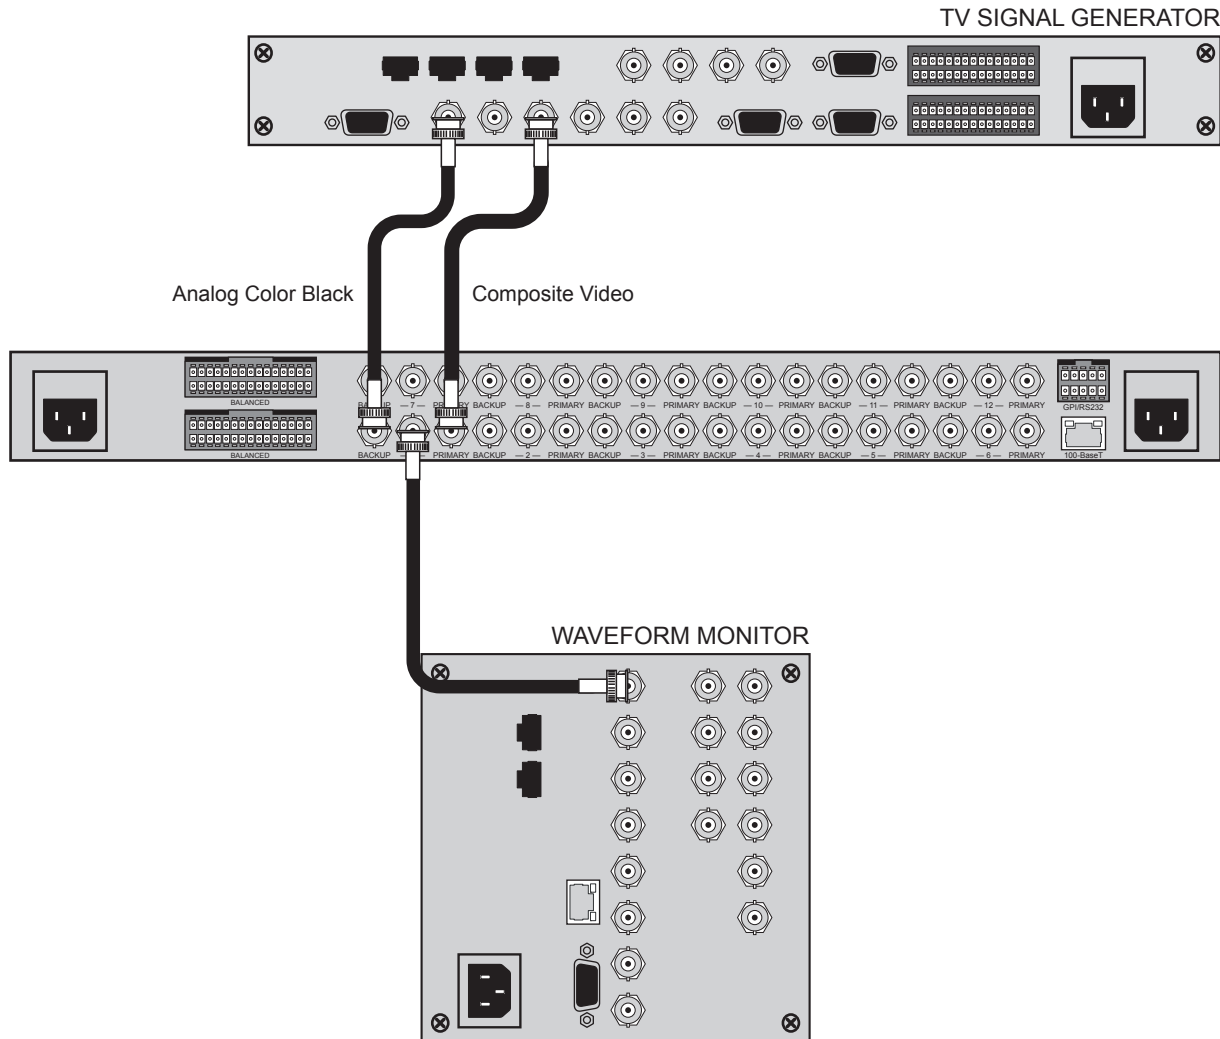

Figure 3.1 Functional Check Connections
2. Connect the ACO-4400 as shown in **Figure 3.1**. Ensure that the ACO-4400 output is properly terminated at the monitoring device.
You can now connect your signals to the ACO-4400 rear panel BNCs (**Figure 3.1** as an example), according to the configuration settings made in the previous paragraph. The example in **Figure 3.1** shows six channels from the list of supported signal types but does not illustrate multi-way channels. Note that the maximum is 12 channels.